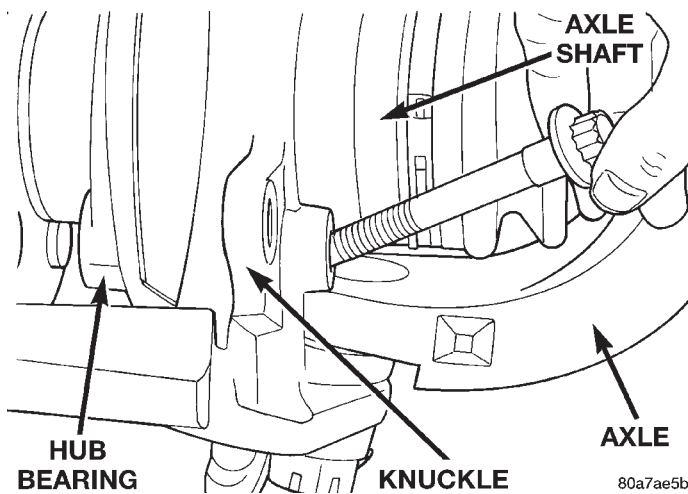
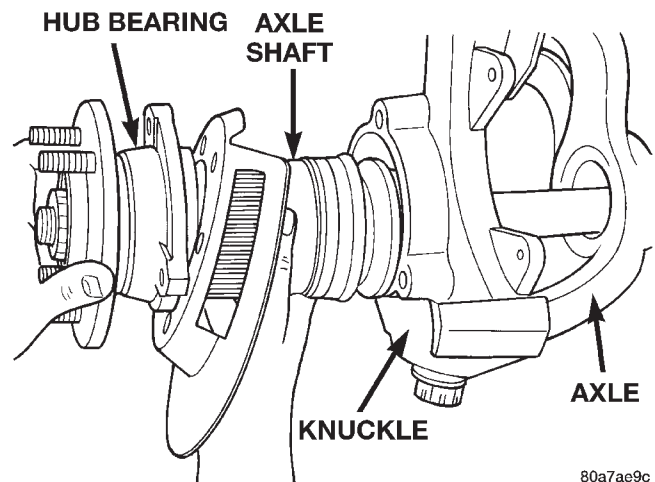

Fig. 19 Hub Bearing Bolts
Fig. 20 Hub Bearing and Axle Assembly
- (6) Remove the hub to knuckle bolts (Fig. 19).
- (7) Remove the hub from the steering knuckle and axle shaft, if necessary.
- (8) Remove hub bearing and axle shaft assembly (Fig. 20), or axle shaft from axle. **Avoid damaging the axle shaft oil seals in the axle housing.**